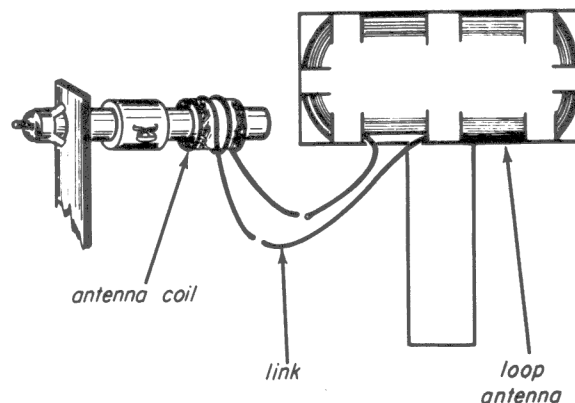

Fig. 36-14
Step 8. Wind one turn of the loop you just made around the antenna coil, and wrap one turn around the loop as shown in the Figure 36-14.